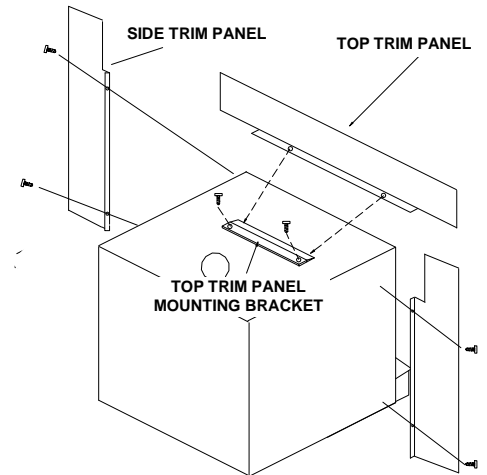

FIGURE 3 MOUNTING TRIM PANELS
1. Place side trim panels flat against the face of the fireplace. Mark the front edge of the trim panel with a pencil to make a vertical reference line. (See Figure 3).
4. Mount the side trim panels. (See Figure 3).